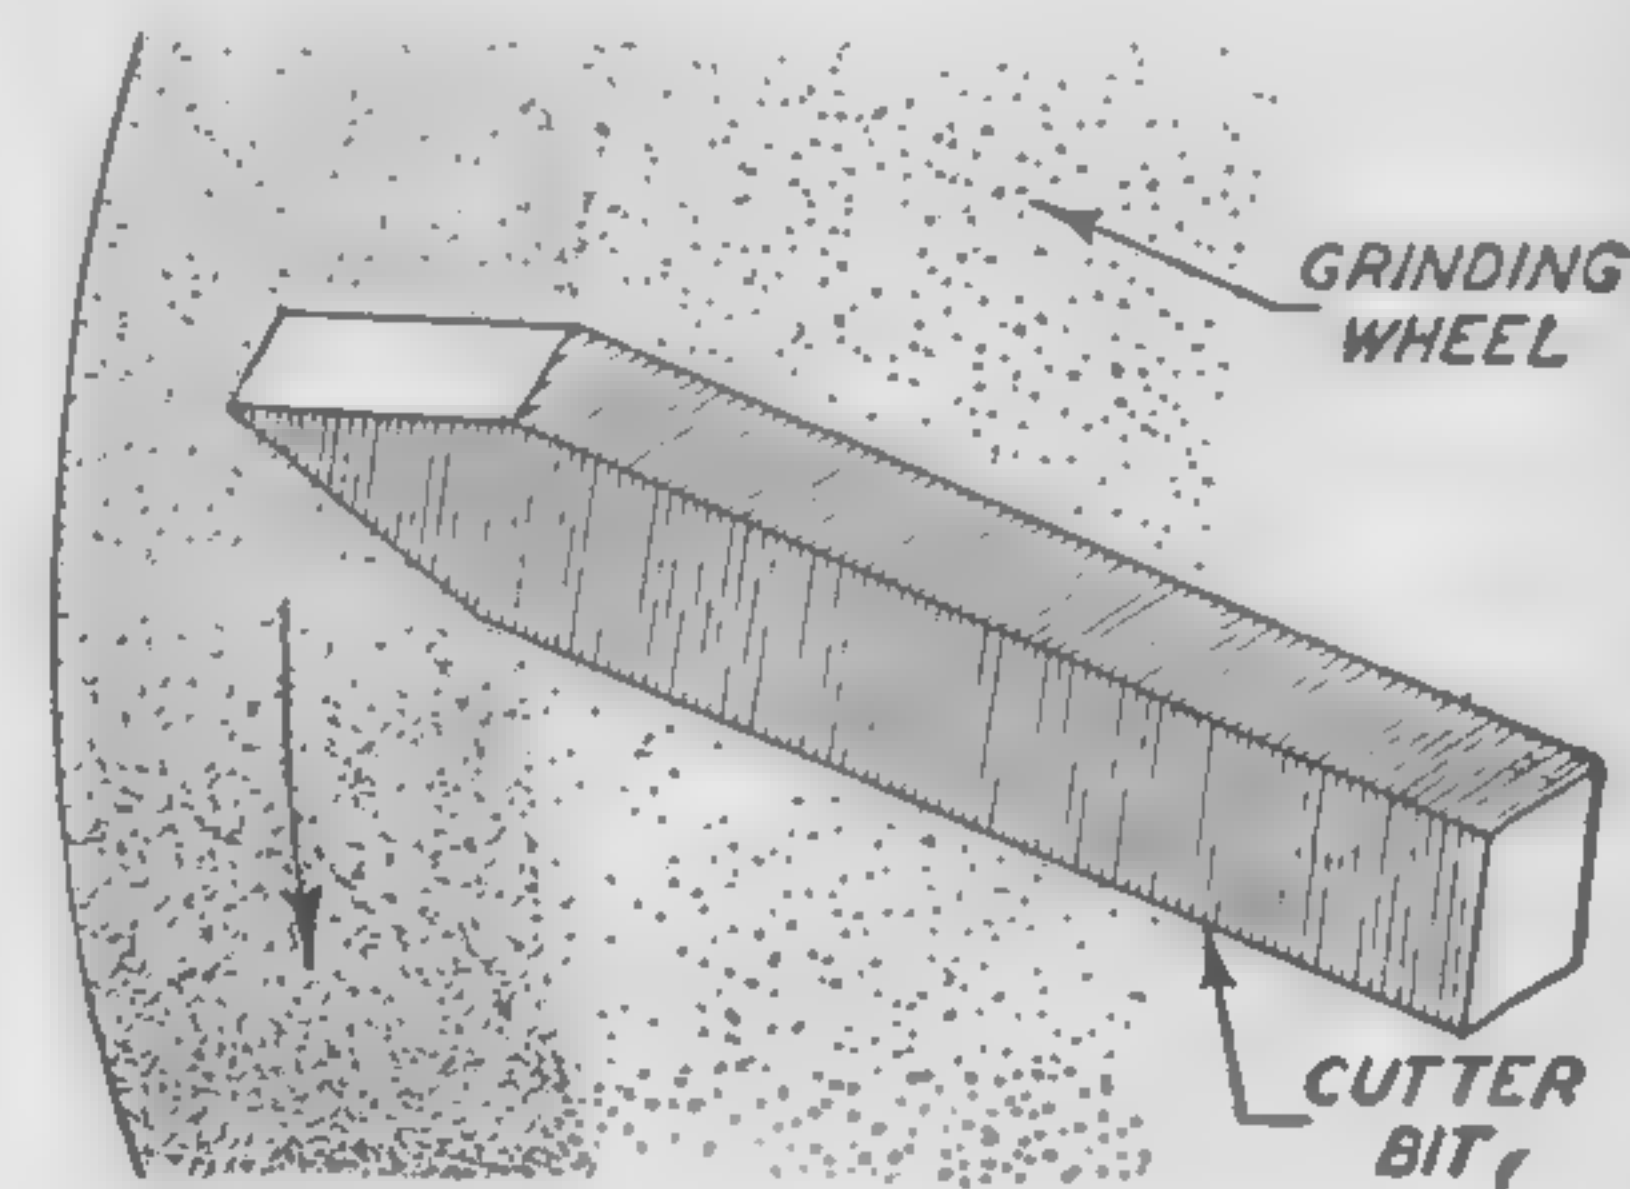

Fig. 31. Step 5—Grinding the Lathe Tool for Top Rake
Step 5. Grind the top of the cutter bit, Fig. 31, holding it at the proper angle to get top rake. It should be held in such a position that the wheel marks will be in the same direction as that of a chip being cut from the material.